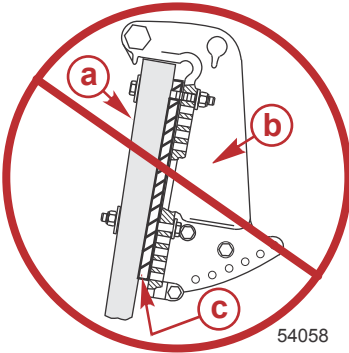

Figure 4
3. Do not install wedges or plates between the transom clamp brackets and the transom (or jack plate). Refer to Figure 4.